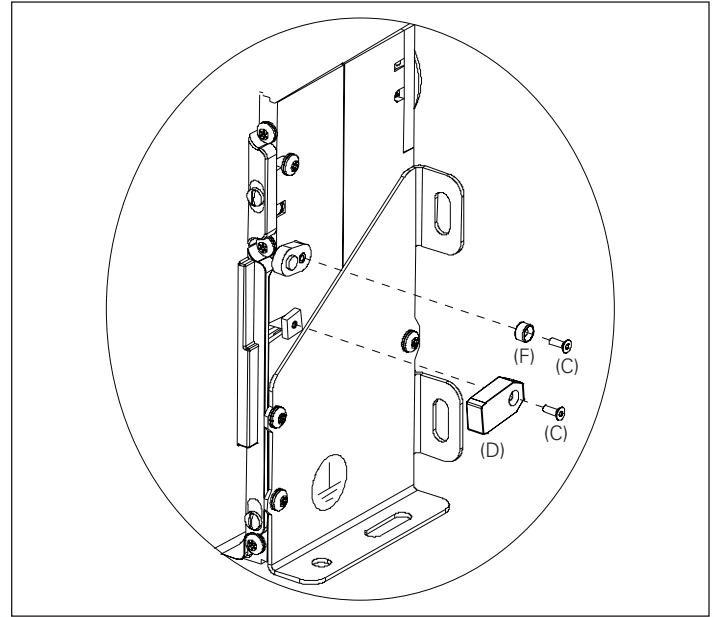

Figure 6. Details for Steps 4 and 5
Install the drive arm (D) to the end of the pole shaft using one M3 x 8 mm flathead screw (C) as shown in **Figure 6** and **Figure 7**. Apply Loctite® Blue 242 to ensure that the screw cannot loosen during operation. The drive arm should be oriented as shown in **Figure 6** and **Figure 7**. Torque to 0,3–0,6 N·m (3–5 in-lb).
Install the trip pin (F) to the trip bar using an M3 x 8 mm flathead screw (C) while holding the trip bar with an adjustable wrench as shown in **Figure 6** and **Figure 7**. Apply Loctite Blue 242 to ensure that the screw cannot loosen during operation. Torque to 0,3–0,6 N·m (3–5 in-lb).